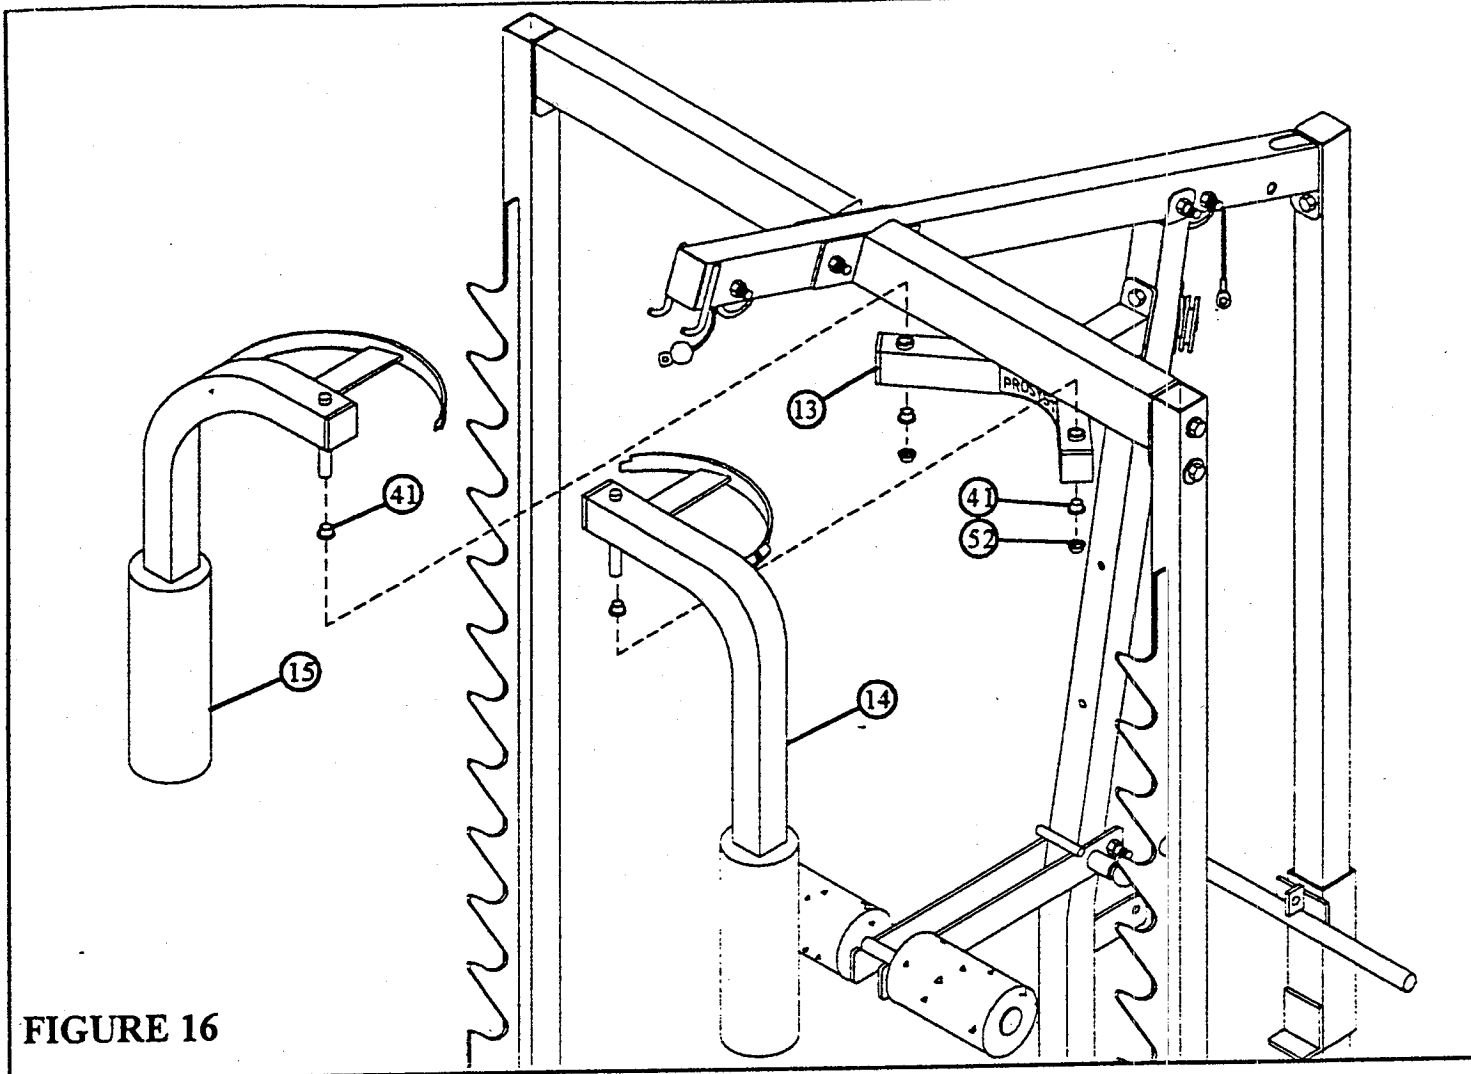

FIGURE 16
- Assemble the LEFT (15) & RIGHT (14) PEC ARMS to the BEARING HOUSING (13) using four 3/4" FLANGE BEARING (41) and two 3/4" CAP NUTS (52) as shown in FIGURE 16.